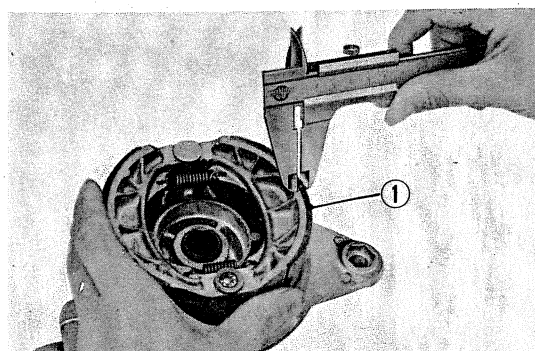

Fig. 113 Brake lining measurement
- 5) Check wear of brake lining. (Fig. 113)